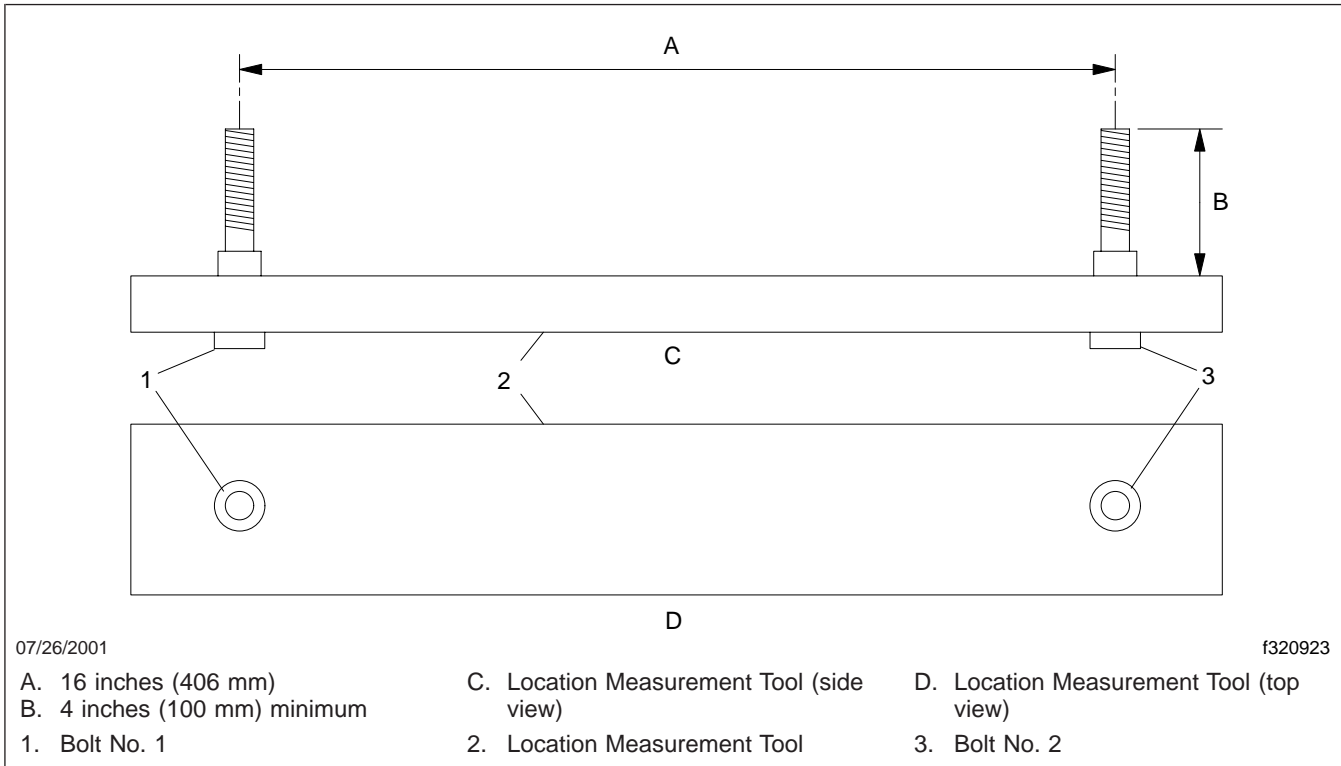

Fig. 9, Air-Spring Mounting Hole Location Measurement Tool
3. Measure the distance between the center of the bolts to ensure that they are exactly 16 inches (406 mm). Correct as necessary until this distance is accurate. See Fig. 9.